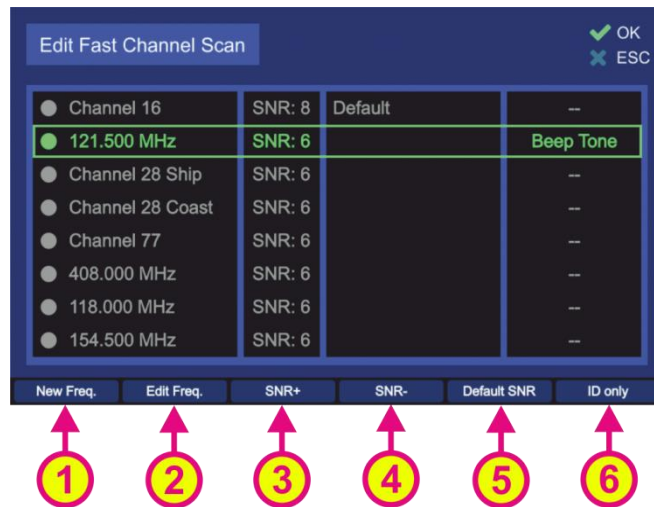
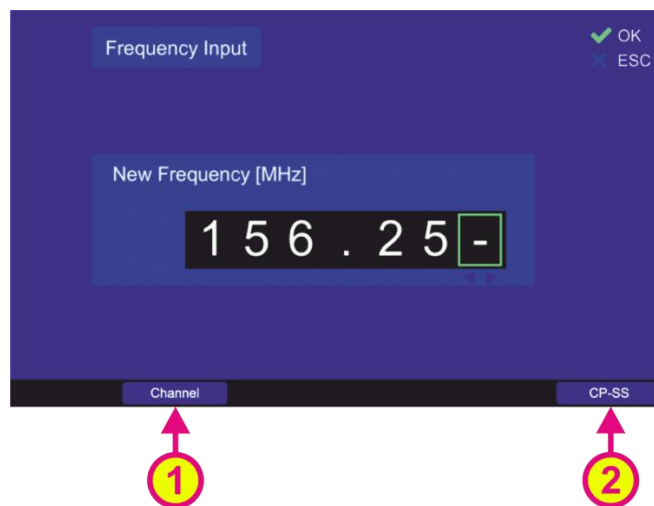

Fig. 37 Fast channel scan settings
Fig. 38 Input of a new frequency to be scanned
The “List of stored frequencies” of the “Memory” dialog (s. 6.1.2.6) internally linked to the list of frequencies of “Fast Channel Scan” (s. 6.2.3.3, Fig. 37). This only applies to frequencies that are marked for scanning (s. Fig. 15, “Scan”) in the “Memory” dialog. That means that activating/deactivating or deleting of a frequency in the “Fast Channel Scan” list causes the activating or deactivating (for scanning) of the same frequency in the “List of stored frequencies” of the “Memory” dialog.
- Pressing the hotkey “Edit Scan” (s. Fig. 35, position 4) will open the dialog for changing the settings of the fast channel scan (s. Fig. 37).
- The hotkey “New Freq.” opens the dialog for adding the new frequency in the list (maximum 8 frequencies/channels). Use the keyboard of the DCU to input the new frequency into the corresponding input field or use one of the hotkeys (s. Fig. 38, positions 1 and 2) to open the “Channel” or “Cospas-Sarsat” input mask.
- The hotkey “Edit Freq.” (s. Fig. 37, position 2) opens the input dialog that allows the modification of the currently marked frequency (s. Fig. 32 and its description in 6.2.2.4, the appearance of the dialog is different from the input of a new frequency that is presented in the Fig. 38).
- Pressing the hotkey „SNR+” (s. Fig. 37, position 3) will increase the SNR value of the currently marked frequency by 1%.
- Pressing the hotkey „SNR-” (s. Fig. 37, position 4) will decrease the SNR value of the currently marked frequency by 1%.
- Pressing the hotkey “Default SNR” (s. Fig. 37, position 5) will set the SNR value of the currently marked frequency to the default value, which can be defined on the “Setup” page (s. 6.4.3.13).
- Pressing the hotkey “ID only” (s. Fig. 37, position 6) activates or deactivates the feature “ID Only” with two possible settings:
be opened (s. Fig. 38 and its description in 6.2.3.3), where you can input any desired frequency.